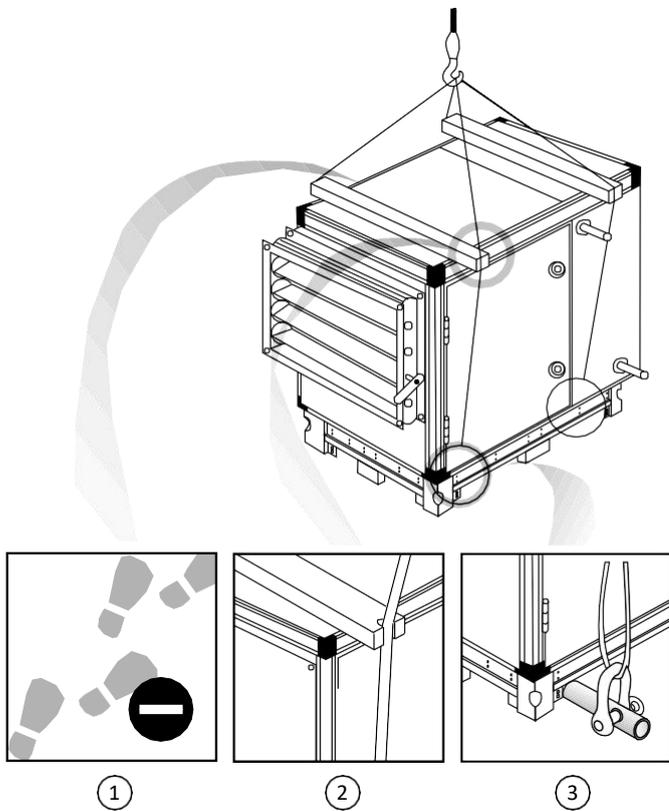

Figure 1 - Crane operation procedure
1. If lifting holes are provided on the unit base frame, sling spreader bars (see Figure 1, part 3).
2. If lifting holes are not provided, see Figure 1 part 4